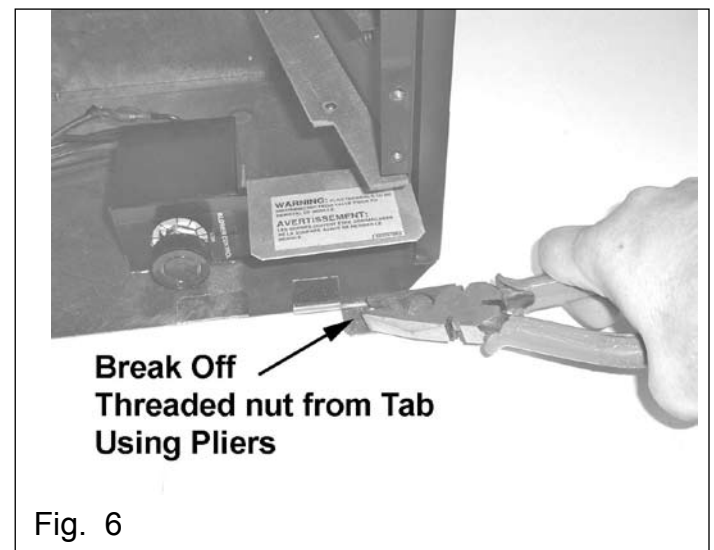

Fig. 6
- Break off threaded nut from tab to allow room for Remote Receiver (see Fig. 6).